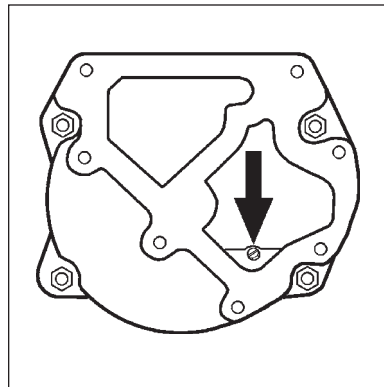

Figure 2
2. Attach ground wire using the green ground screw located inside the electrical box (Figure 2). Connect the power cable to the pump wiring per the wiring diagram located inside the electrical coverplate. Secure with wire nuts.